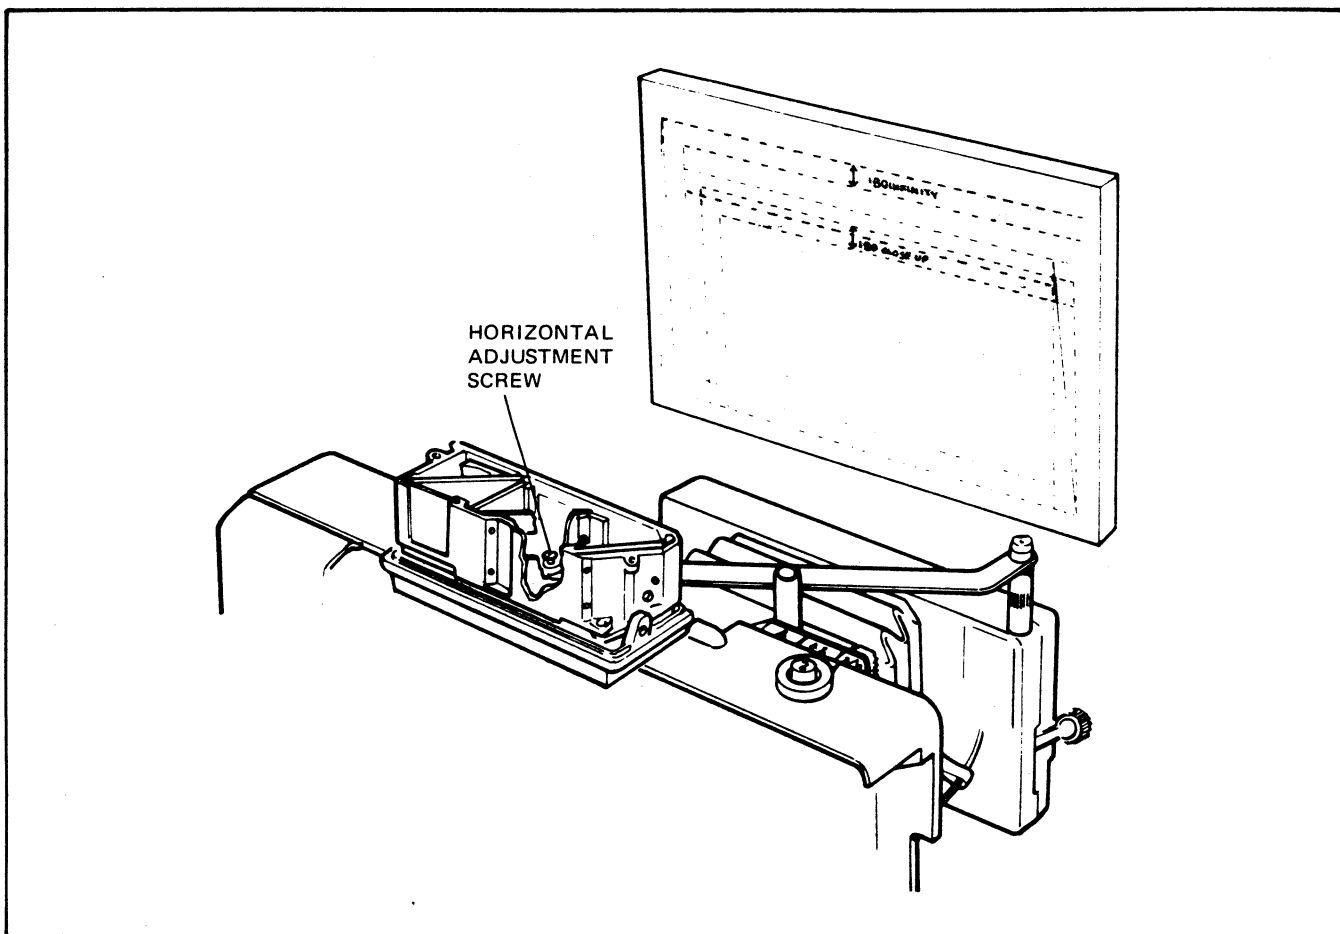

FIG. 5.49 PARALLAX HORIZONTAL ADJUSTMENT FOR ZEISS IKON RF/VF
- c. Observe the frame target through the RF/VF eye lens. Using a jeweler's screwdriver, turn the horizontal adjusting screw until the top horizontal line of the yellow projected frame image is within the area bounded by the 180 close-up target lines when the focus bar is set to CLOSE-UP (Figure 5-49). Also, adjust the same screw until the top horizontal line of the yellow projected frame image is within the area bounded by the 180 infinity target lines when the focus bar is set to INFINITY. When these adjustments have been completed, seal the adjusting screw with shellac. **Don't let the shellac drip into the cantilever assembly.** (Parallax horizontal